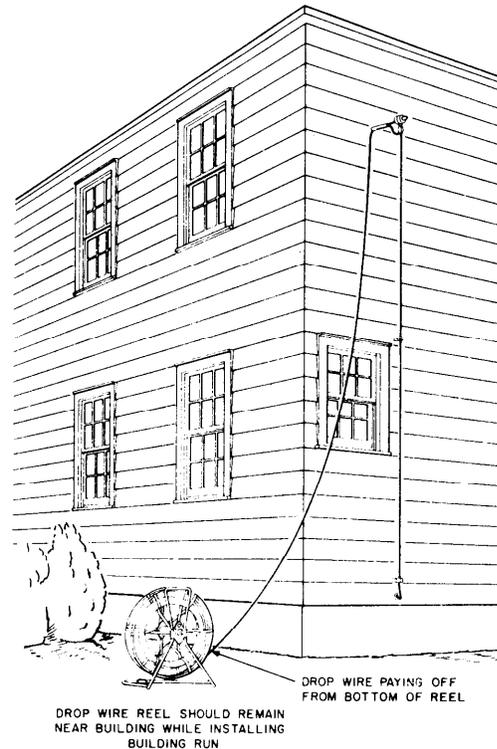

Fig. 13 - Drop Wire Attached to Building - Reel Method
- (a) Caution: Before Proceeding with the following operation, fasten the inner end of the coil of drop wire securely to one of the rigid spokes of the drop wire reel. Install the building attachment and secure the drop wire to this support. Complete building run and keep drop wire reel near the building to avoid accidents or damage to wire (Fig. 13).